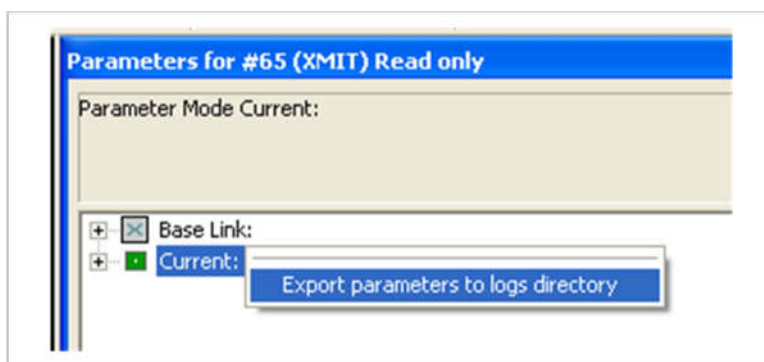

Figure 64 - Exporting Radar Parameters (Steps 4 and 5)
- Step 4 Left click on Current (Figure 64)
- Step 5 Select Export parameters to logs directory (Figure 64)